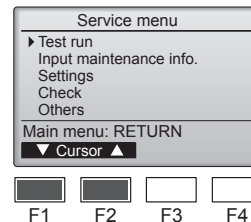

Fig. 8-1
- ① Select "Test run" from the Service menu, and press the [SELECT/HOLD] button. (Fig. 8-1)